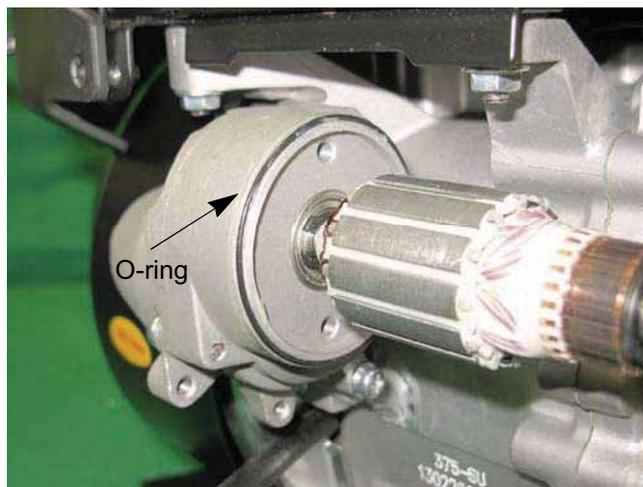

Figure 6.17
10. Install a new O-ring on the front cover that is still attached to the engine. See Figure 6.17.